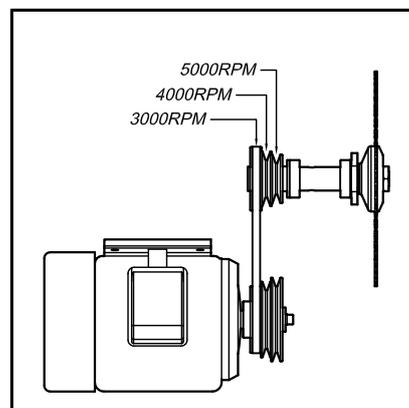

Fig.3-5-4
5. Put the belt into the slot of the pulley to be changed (please refer to Fig. 3-5-4 for each rotating speed's position).
9. The machine has the rotating speed 3000, 4000, 5000, r.p.m. available for change (as Fig. 3-5-4).